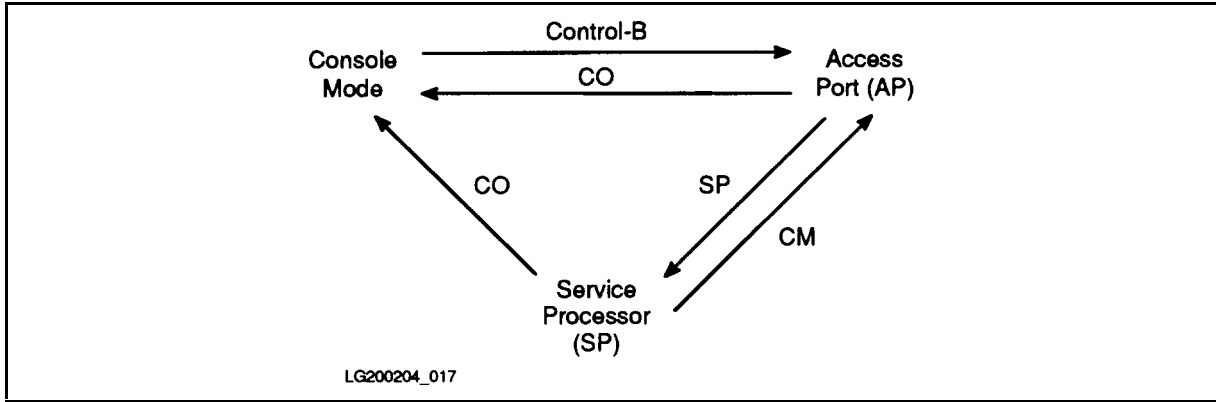

Figure 7-1. Console Mode, Access Port, and Service Processor
From the system console, you can access the commands available from the Access Port (AP) and the Service Processor (SP). Figure 7-1 summarizes how to change from one mode to another.